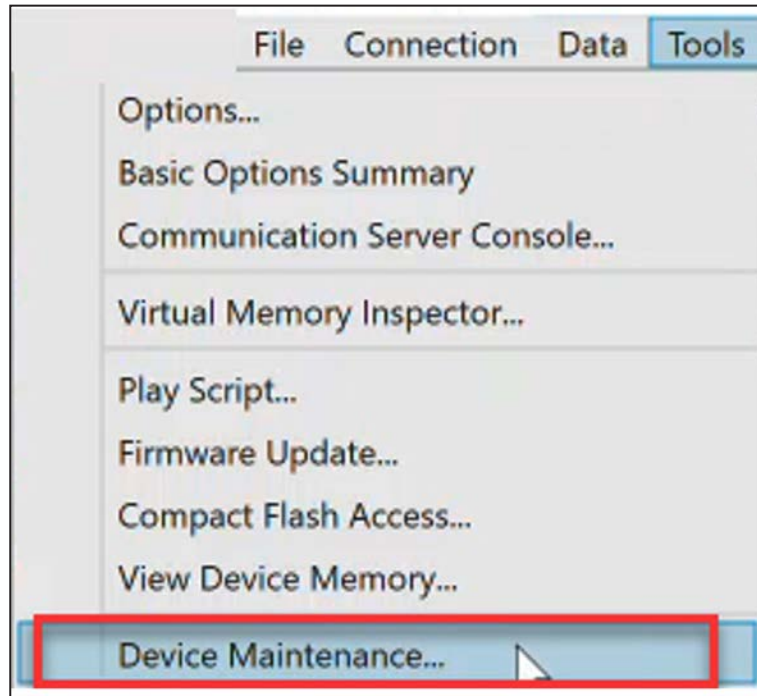

Figure 53. The Tools>Device Maintenance button.
- STEP 2.** Click on the **Tools>Device Maintenance** button. See Figure 53.